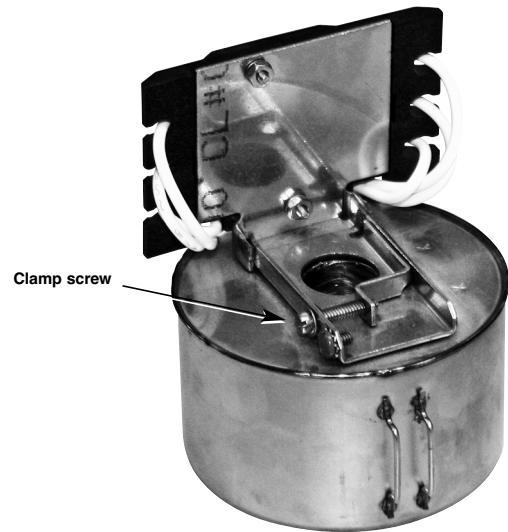

Figure 4
3. Loosen clamp screw in mounting clamp until mechanism slides freely on enclosing tube, refer to Figure 4.